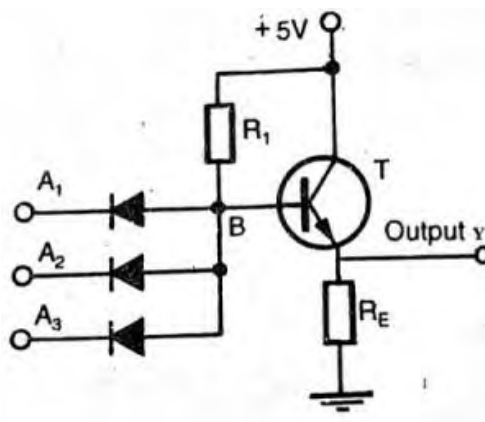

Figure 3.26: A 3-input diode transistor logic of an AND gate
- Diode Transistor Logic Circuit – AND gate:** A 3-input diode transistor logic of an AND gate is shown in Figure 3.26. The circuit consists of a base resistor R_1 and an emitter resistor R_E . The base resistor R_1 is connected between the power supply (5v) and the base of the transistor at point B. The output Y, is taken between the emitter of the transistor and the emitter resistor, consequently, the output voltage is equal to the voltage across R_E .